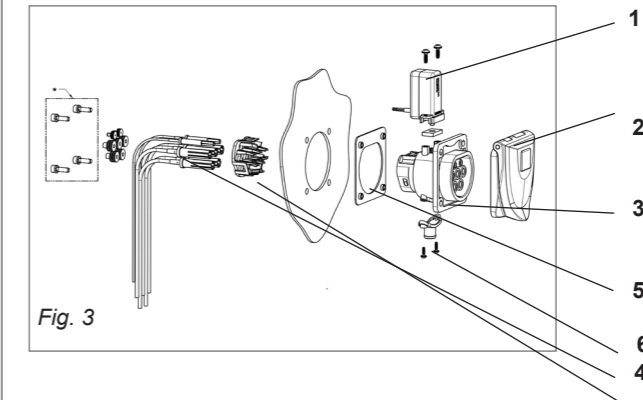

Fig. 3
Wall thickness with locking actuator: maximum of 5.5 mm (refer to Fig. 3)
Step 1:	Remove the locking actuator (1) and the water drainage (6).
Step 2:	Make sure that the flange gasket (5) rests against the rear of the charging socket (3). Mount the flange gasket (5) on the rear of the charging socket (3) (refer to Fig. 3).
Step 3:	Carefully guide the charging socket (3) through the wall cut-out from the front. Make sure that the flange gasket (5) is seated properly on the charging socket.
Step 4:	Attach the charging socket (3) and the hinged cover (2) from the inside to the mounting wall using the pan head screws and washers. Note that the length of the screws depends on the thickness of the mounting wall: <ul style="list-style-type: none"> • M5 pan head screws • Washer, according to DIN 934 • Screw length: from 10 mm to max. 13 mm, plus wall thickness • Max. torque: 4 Nm
Step 5:	Mount the locking actuator (1) and the water drainage (6). Locking actuator (1) -> max. torque 1.7 Nm Water drainage (6) -> max. torque 1.2 Nm.